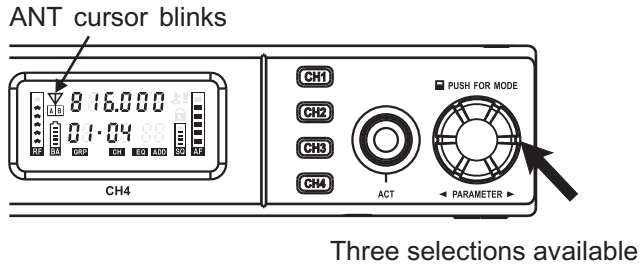

Fig. 13
- (1) Press the rotary button to select parameters. Current CH number blinks to denote it can be changed readily.
- (2) Turn the knob right to increase or left to decrease a CH number.
- (3) Press the knob again, CH number stops blinking and saves the new channel number automatically.
- (4) When SQ meter shows full-grid, it will enter CH selection forcibly.
- (5) Group 16 enables the user to select and save up to 16 frequencies.
(C) ANTENNA Setting, Fig. 13: